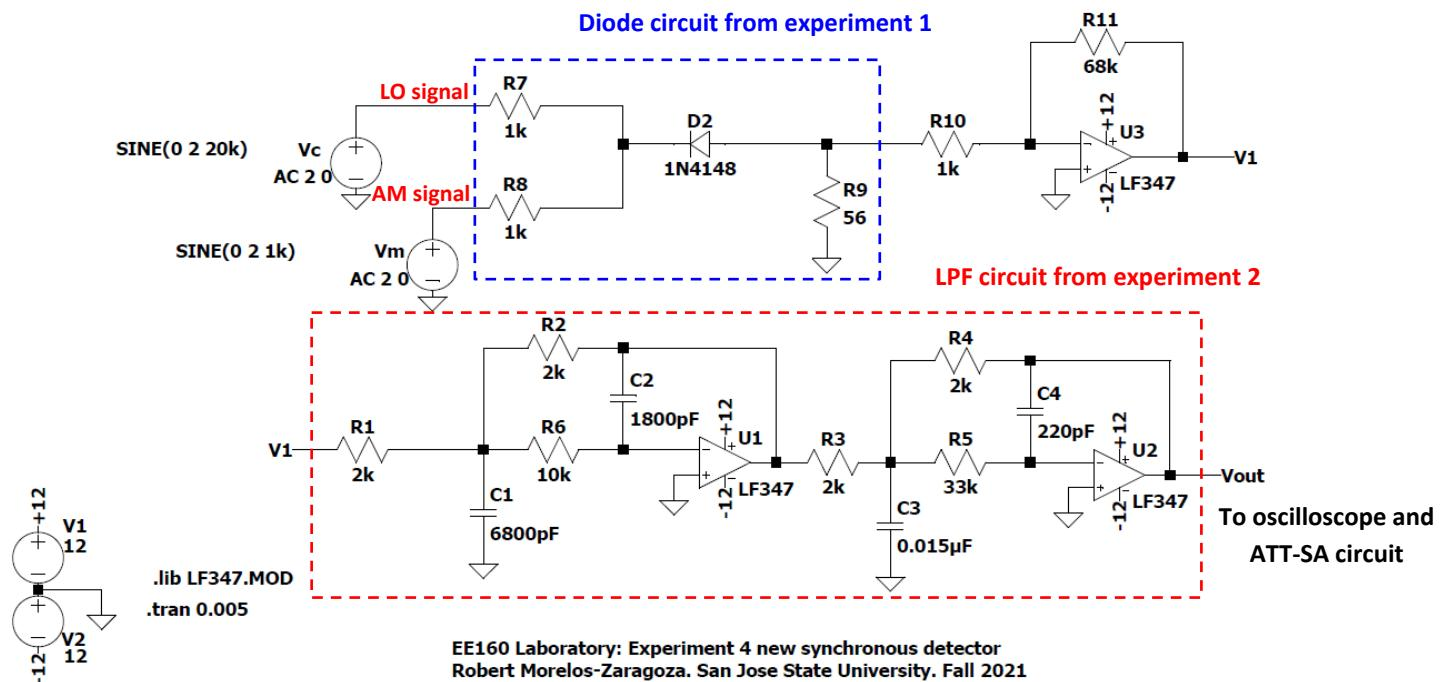

Figure 4.1a: Synchronous detector
A synchronous detector is a circuit for demodulating a DSB-SC or a DSB-LC (AM) signal. The detector recovers the low pass (or “baseband”) signal that was used to modulate the carrier in the DSB modulator. In Figure 4.1a, the synchronous detector is implemented as using an adder and a diode. This creates harmonics and intermodulation products that include the product of the input signals to the adder.
Build the circuit in Figure 4.1a and 4.1b with the designed values before coming to the lab.
Download LTspice model *mixing_diode_sync_detector.asc* from Canvas. The model simulates the synchronous detector circuit in Figure 4.1a. The two input signals to the adder (via the two 1KO resistors) are sinusoidal signals of peak-to-peak amplitudes both equal to 4 V and fundamental frequencies equal to 20 kHz and 1 kHz. The purpose of the model is to verify the correct functionality of the detector with two sinusoidal signals. Run the model and attach